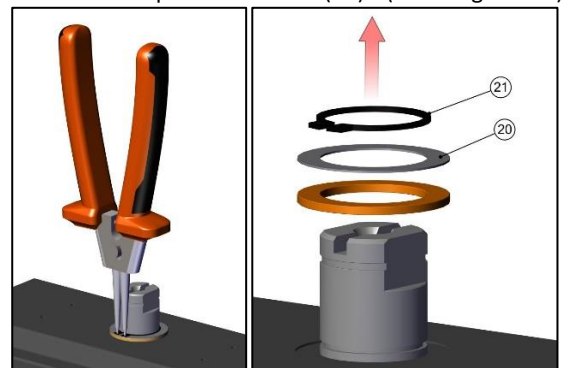

Fig No.17
- a) Remove the Circlip (21) using a Circlip plier.
- b) Remove the pinion washer (20). (refer fig no.17)